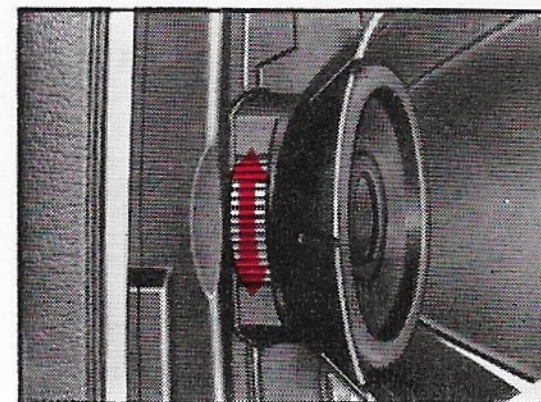

Fig. 8
3. Turn the side adjustment wheel on the eyepiece, first clockwise, then counter-clockwise until the viewfinder is sharpest. This setting will not have to be changed until it is readjusted to suit the eyesight of another user (Fig. 8).